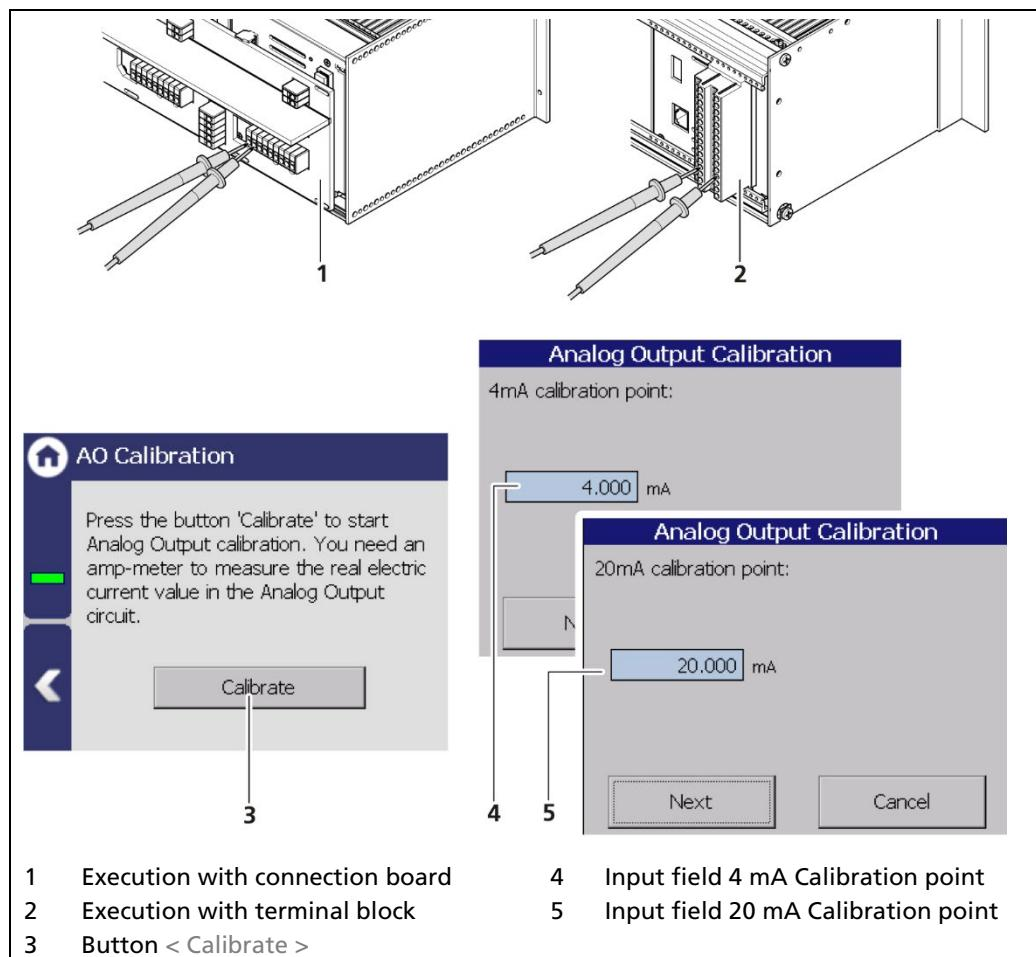

Fig. 118 Analog Output (Calibration)
2. Observe the terminal allocation in the document "Technical Information" for executions with connection boards (Fig. 118, item 1) or allocation with terminal block (Fig. 118, item 2).
4. Enter the indicated value on the current measuring instrument in the input box (Fig. 118, item 4).
6. Enter the indicated value on the current measuring instrument in the input box (Fig. 118, item 5).